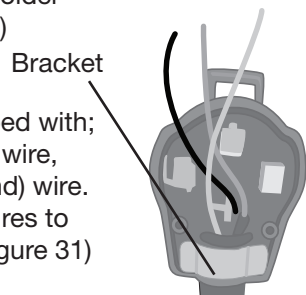

Figure 30
**2** Unscrew the back panel of the plug, then unscrew the wire holder bracket. (See Figure 30)